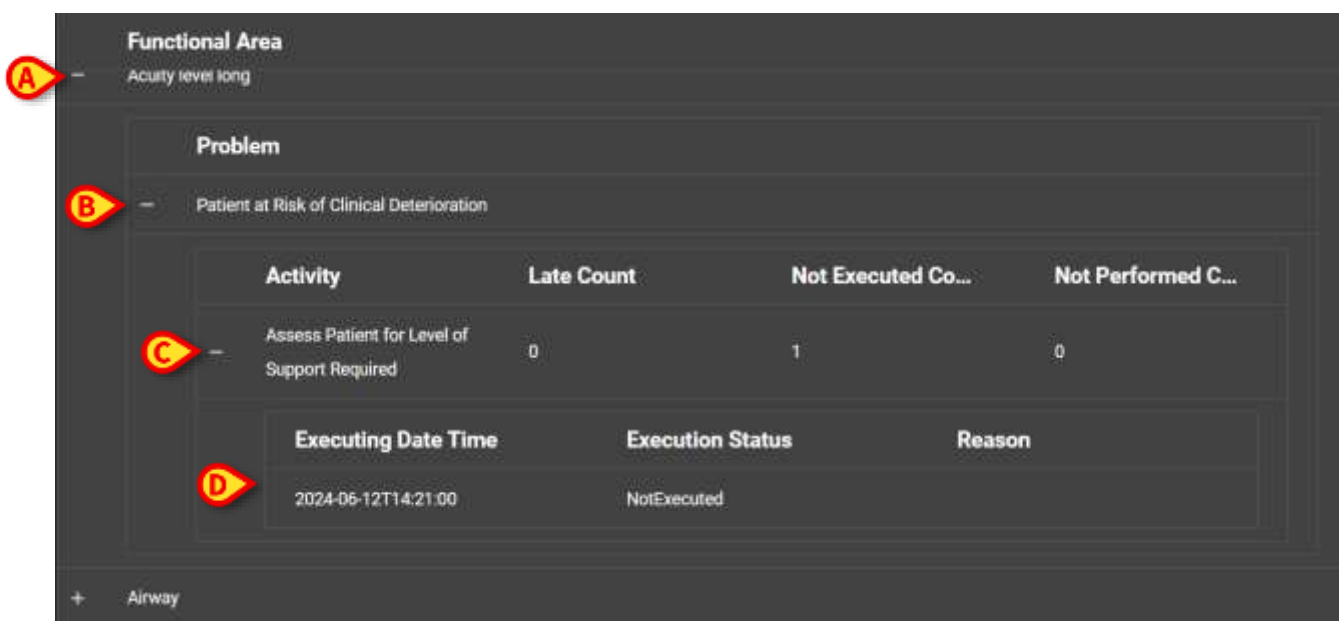

Fig 102
See, for example, in Fig 102:
- Functional Area: Acuity Level Long (Fig 102 **A**).
- Problem: Patient at Risk of Clinical Deterioration (Fig 102 **B**).
- Activity: Assess Patient for Level of Support Required (Fig 102 **C**).
- Anomaly: the anomaly details are here specified (date/time and type - Fig 102 **D**).